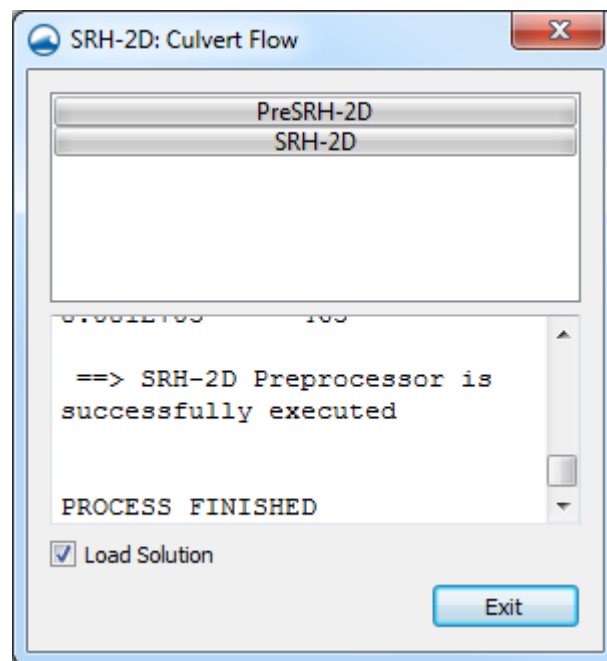

Figure 8. SMS Model Wrapper
6. As shown in Figure 8 make sure *Load Solution* is checked in the SMS model wrapper and click **Exit**. The solution datasets will now be listed in the Project Explorer under “Gila_Mesh”.